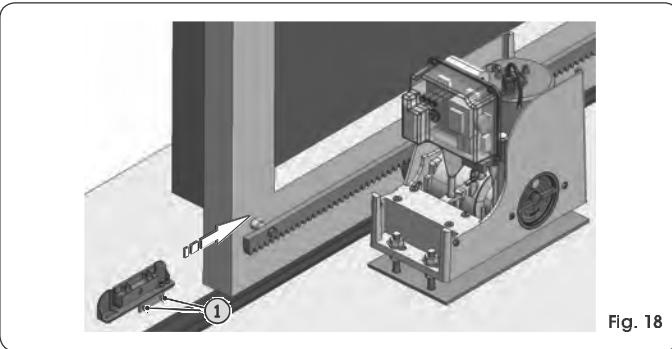

Fig. 18
- ③ Manually take the gate to opening position, leaving 4 cm from the travel limit mechanical stop.
- ④ Slide the magnet nearest to the operator on the rack, in the direction of the motor - see figure 18. As soon as the LED on the board, referring to the travel limit stop, goes OFF, take the magnet forward by another 10 mm and fasten it with the appropriate screws (Fig. 18 ref. ①).
- ⑤ Do likewise for the other magnet.
- ⑥ Take the gate to about halfway of its travel and relock the system (see paragraph 9).